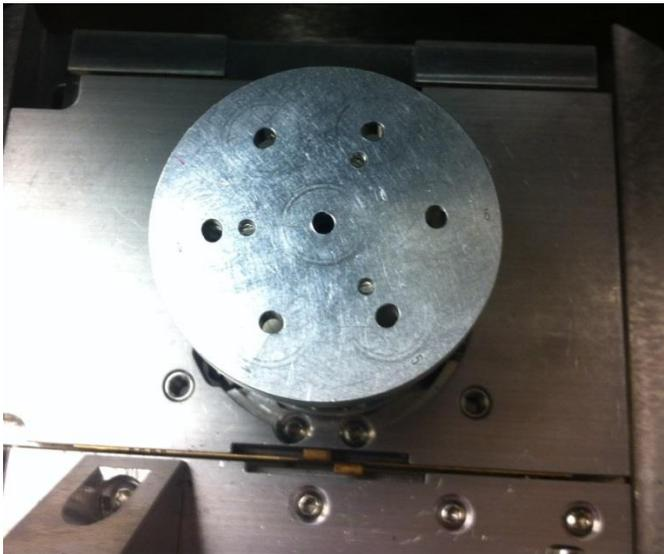
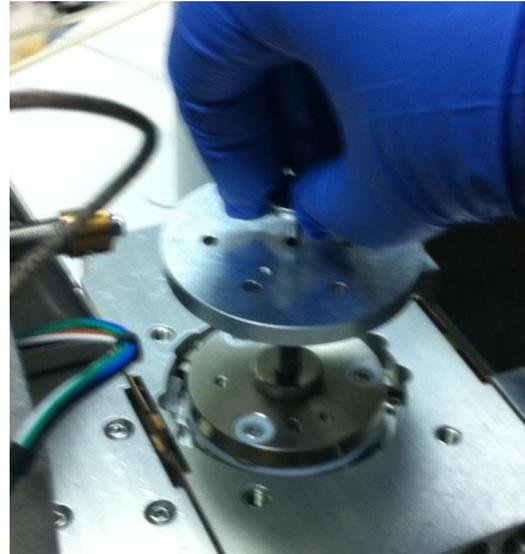

Fig. 2 Specimen stub
Fig. 3 Insert the specimen stub into the stage.
3. Mount your specimen to a specimen stub (Fig. 2), insert the pin into the opening in the top of the stage (Fig. 3).